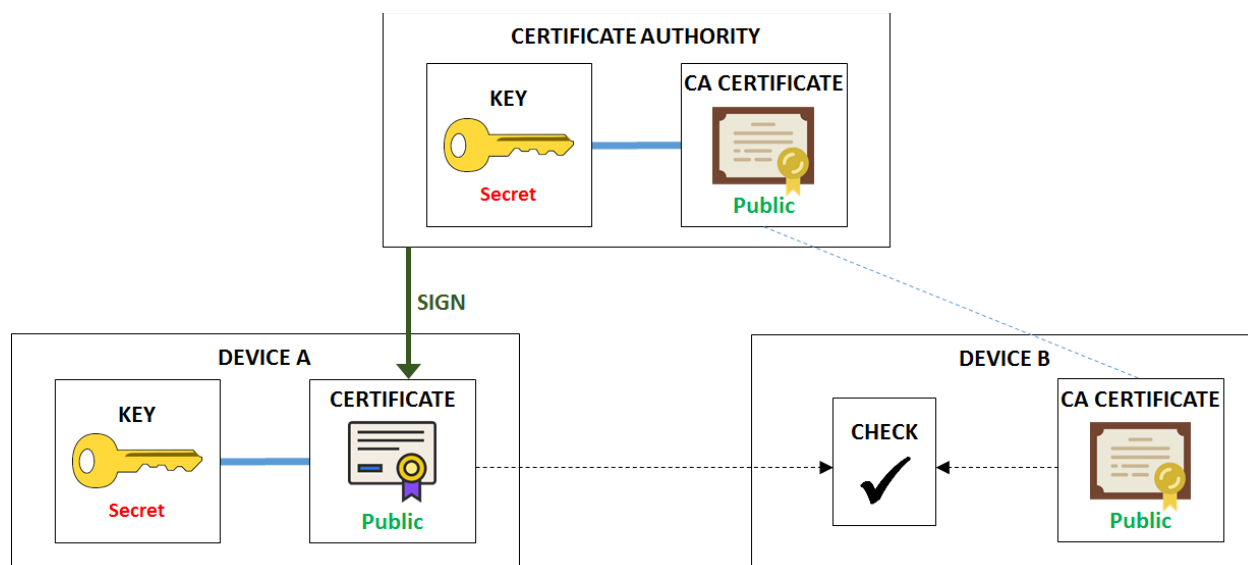
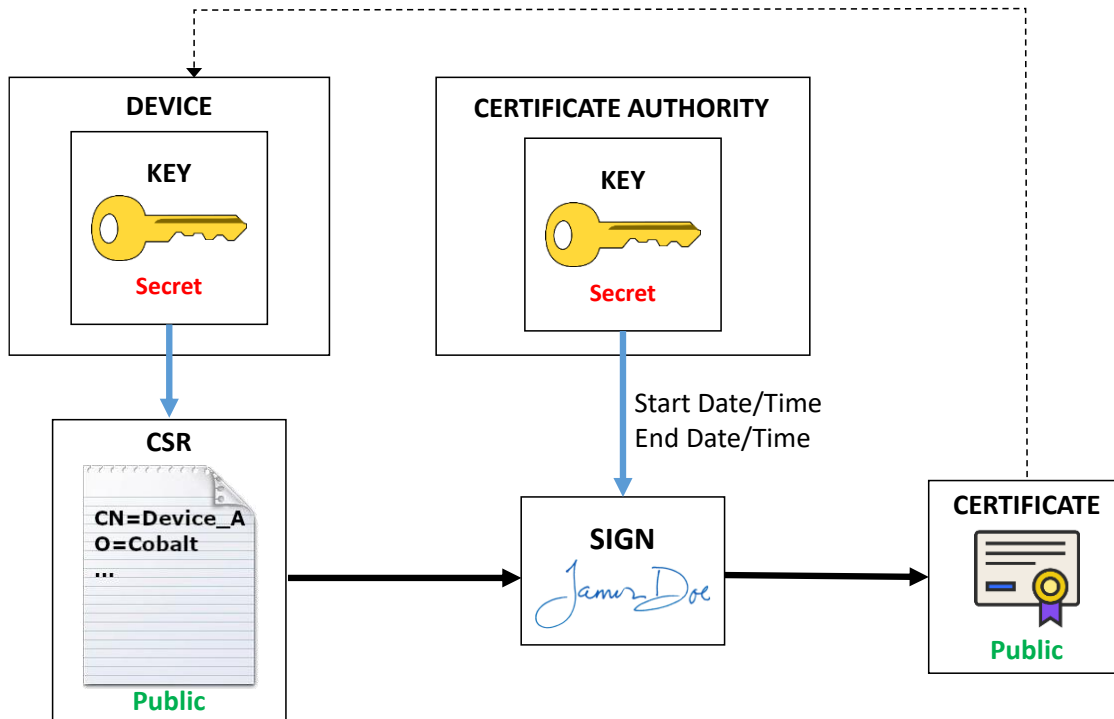
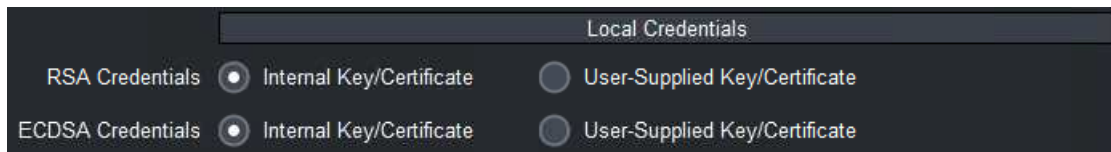

Figure 1: Certificate Checking
Figure 2: Certificate Signing Process
Figure 5: Configuring the Local Credentials
The certificate-based authentication process is illustrated in Figure 1. In this figure, Device B is deciding whether it trusts Device A. The same process can happen independently in the other direction. Device B has decided to trust certificates signed by a certain CA, so it has a copy of its CA Certificate, which was transferred to it through some secure means. Device B then receives a certificate from Device A. Unless that certificate matches the key stored in Device A, communication cannot even start. Device B can locally check the CA signature in the certificate coming from Device A against the CA Certificate it has. If that signature matches, and if Device B is prepared to trust the CA, then it will agree to communicate with Device A.
It is possible that a device goes “rogue” – in other words, it used to be authorized, but for whatever reason, it should not be accepted anymore. In Cobalt devices, this functionality is implemented using a list of **blocked devices**. One important field in the certificate is the **Common Name** – i.e., the name of the device. In a web site, this is usually the address of the site, e.g., www.cobaltdigital.com, but it can be any text string. For Cobalt devices, the blocking is done based on the Common Name of the device. Referring back to Figure 1, Device B will execute an additional step after it verifies that the certificate from Device A is valid – it will check that the Common Name is not in a list of blocked devices. If it is, Device B will refuse to communicate, even though the certificate checks out.
Figure 1 shows a certificate that has been signed by a Certificate Authority. In order to be secure, the signing process must not expose the device’s secret key, not the CA’s secret key. The process uses an intermediate file called a **Certificate Signing Request**, or **CSR**. The process is illustrated in Figure 2.
As indicated in Figure 2, the process includes the following steps:
As illustrated in Figure 1, the device needs a matched key/certificate pair to operate. The device's certificate is its identity, presented to remote devices when connecting. Using the DashBoard interface, in the **Authentication** tab, the device can be configured to use either its built-in credentials, or credentials that have been uploaded by the user through the web interface. This is shown in Figure 5.
2. Upload only a certificate that is matched to the internal built-in key. In order to do this, you will need to obtain a CSR from the device itself and get it signed, as illustrated in Figure 2. This process is described in more detail below.
4. Configure the Cobalt device to use the user-supplied credentials, as shown in Figure 5.